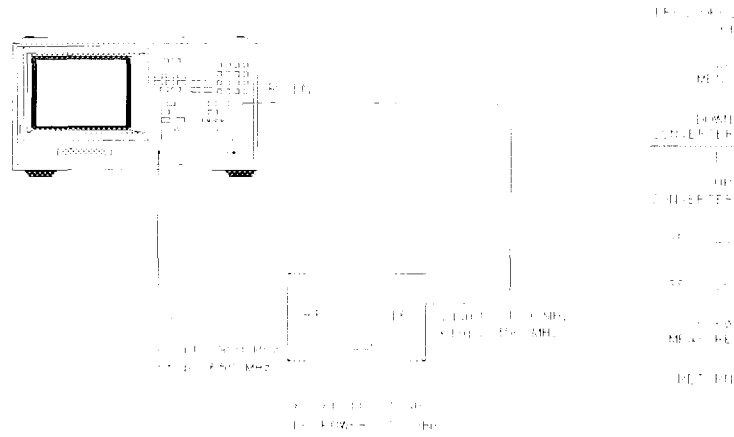
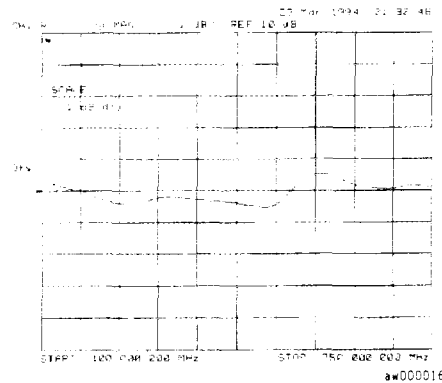

Figure 8-6. Measurement Setup from Display
Figure 8-7. Conversion Loss Example Measurement
In this high-side LO, down conversion configuration, the analyzer's source is actually sweeping backwards, as shown in Figure 8-7. The measurements setup diagram is shown in Figure 8-6.
- 12** To measure the conversion loss as shown in Figure 8-7, press:
In this measurement, you set the input power and measured the output power. Figure 8-7 shows the absolute loss through the mixer versus mixer output frequency.